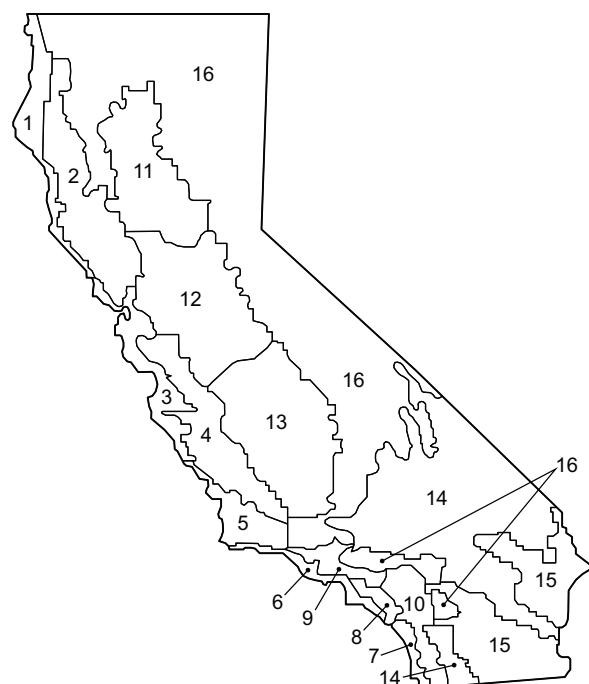

Fig. 65 — California Title 24 Zones
- Refer to Fig. 65 for map of California Title 24 zones.